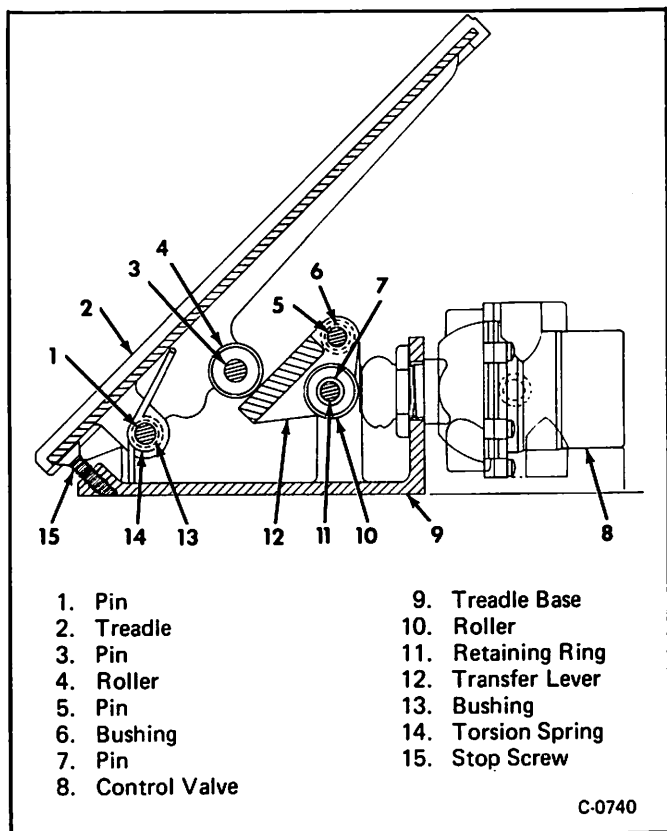

Figure 3—Treadle Valve Assembly
TREADLE VALVE ASSEMBLY (FIGURE 3)
1. Remove the retaining rings on the treadle heel pivot pin and the transfer lever pivot pins (fig. 3). Remove the pins, treadle, and transfer lever.